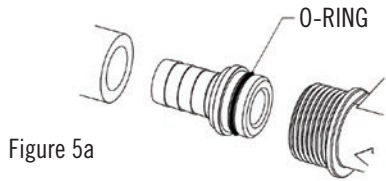

Figure 5a
5. Tighten each hose clamp to secure suction and discharge hoses to all barb fittings to prevent fluid leaks (Figure 5a - 5c). Hook Nozzle Bracket to IBC Cage at preferred location.
5. Install Discharge Hose with nozzle to discharge side of pump with included barb fittings and hose clamp (see Figure 5a-b, page 5).